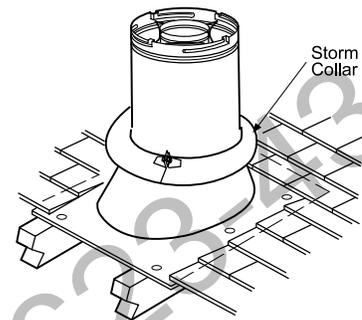

Figure 25
J. Install the storm collar - Install the storm collar, supplied with the flashing, over the vent/flashing joint. See *Figure 25*. Loosen the storm collar screw. Slide collar down until it meets the top of the flashing. Tighten the adjusting screw. Apply non-combustible caulking or mastic around the circumference of the joint to provide a water tight seal.